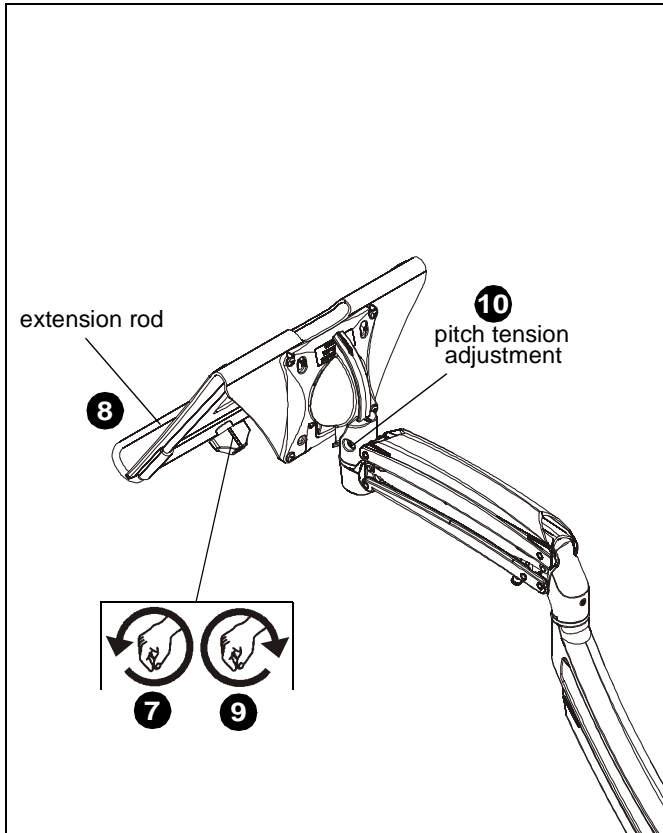

Figure 4
- Turn extension rod tension adjustment knob counter-clockwise to decrease tension. (See Figure 4)
- Extend laptop extension rod as desired. (See Figure 4)
- Turn extension rod tension adjustment knob clockwise to tighten extension rod in place. (See Figure 4)
- Center laptop on tray and adjust pitch tension as needed to hold tray in desired position. (See Figure 4)